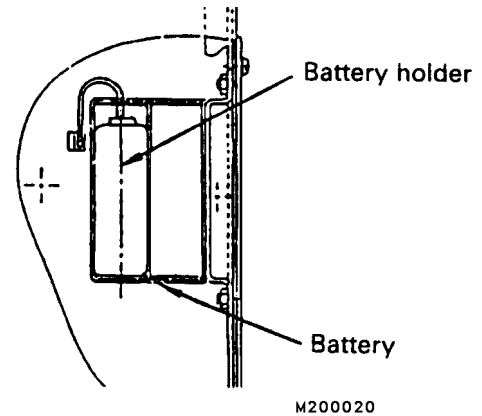

FIGURE 20-9. BATTERY INSTALLATION
5. Grasp the wires coming from the battery and pull outward. By pulling perpendicular from the board, it will disconnect the connector from the board and pull the battery out of its holder simultaneously (Figure 20-9).